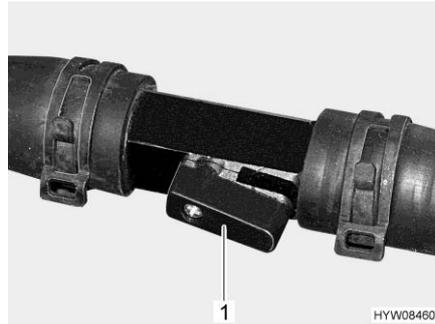

Fig. 162 Stopcock (open)
- Set the lever (Fig. 162,1) of the stopcock parallel to the pipe (Fig. 162). The wider the stopcock is opened, the higher is the heat output.
- Set the lever (Fig. 162,1) of the stopcock at right angles to the pipe. Heat is circulated by the bypass line.